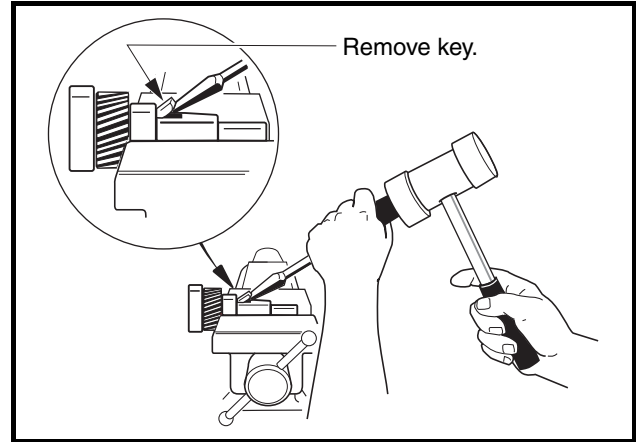

Figure 17b-15 Remove Key
8. Press the bearing (20) off the intermediate gear assembly (**Figure 17b-4, Page 17b-3**).